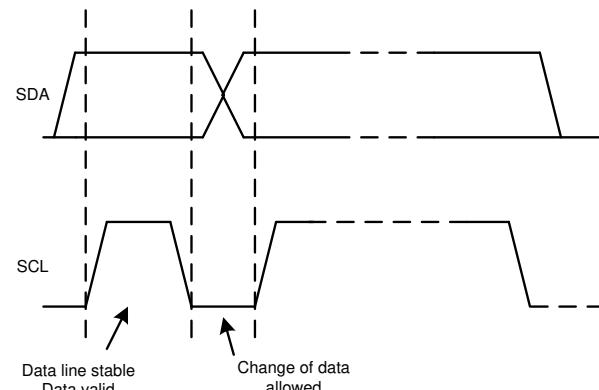

图 7-11. Bit Transfer on the I²C Bus
2. The controller then generates the SCL pulses, and transmits the 7-bit address and the read/write direction bit (R/W) on the SDA line. During all transmissions, the controller makes sure that data are valid. A valid data condition requires the SDA line to be stable during the entire high period of the clock pulse, as shown in 图 7-11. All devices recognize the address sent by the controller and compare the address to the respective internal fixed address. Only the target device with a matching address generates an acknowledge by pulling the SDA line low during the entire high period of the 9th SCL cycle, as shown in 图 7-9. When the controller detects this acknowledge, the communication link with a target has been established.